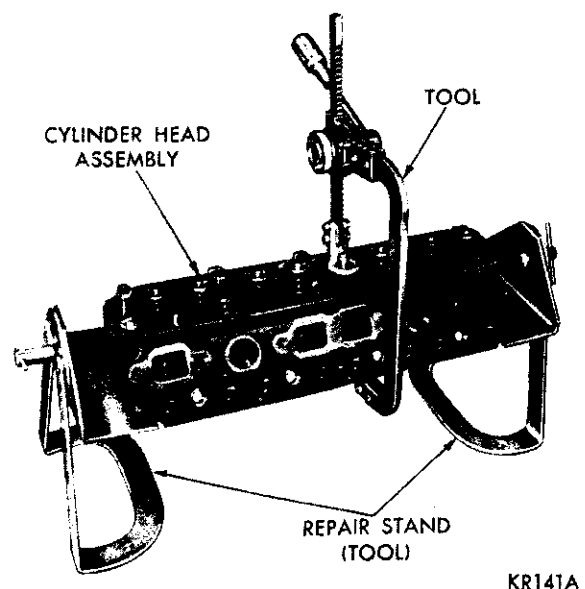

Fig. 8—Compressing Valve Spring
(1) With cylinder head removed, compress valve springs, using Tool C-3422A, (Fig. 8).
(2) Remove valve retaining locks, valve spring retainers, valve stem cup seals and valve springs.
(3) Before removing valves, remove any burrs from valve stem lock grooves to prevent damage to the valve guide. Identify valves to insure installation in original location.